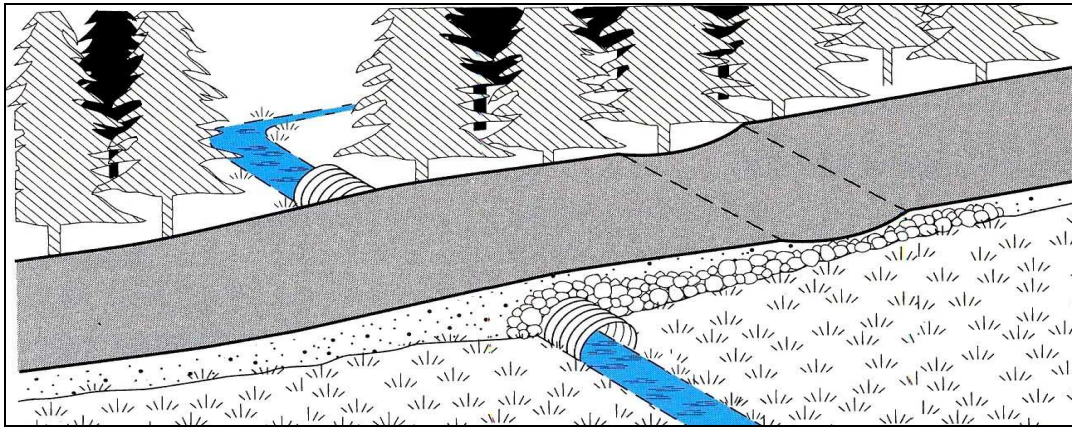

Figure 22. Proper Culvert Installation and Use on a Wetland Road.
- Place 24 inch diameter culverts with their bottom half in the upper 12 inches of the soil to handle subsurface flows and the top 12 inches to handle above ground flows every 300 feet or so (see Figure 22).
- In mineral soil wetlands, a culvert should be placed at the lowest elevation on the road centerline with additional culverts as needed to provide adequate cross drainage (see Figure 22 and 24).